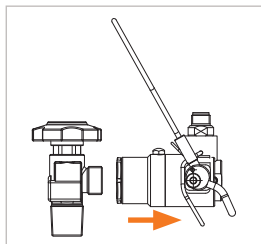

Figure 15
- ▶ Pull the connector **straight** back (*Figure 15*). Doing so will prevent any damage to the front seal caused by any sharp edges on the cylinder valve.